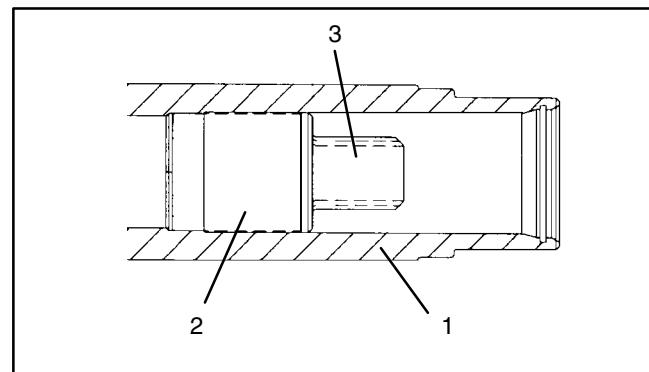

Figure 19
1. Remove the retaining ring (5) and the drive coupler (4) from the end of the reel shaft.
2. Remove the V-ring (3) from the reel shaft.
3. Using a flat blade screw driver or similar tool, remove the speedi sleeve (2) from the reel shaft.
- C. Check the drive adapter inside of the reel shaft (Fig. 19). The adapter should be free of bending and distortion. Check the splines for excessive cracks or distortion. Replace the reel if necessary.